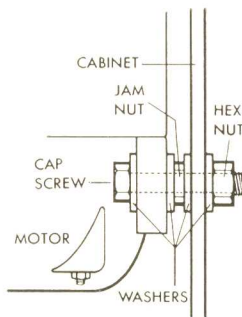

Figure 7
Place motor mounting bolts with washers in motor and lock in place with hex jam nuts (item 6, page 16) as shown in Figure 7.